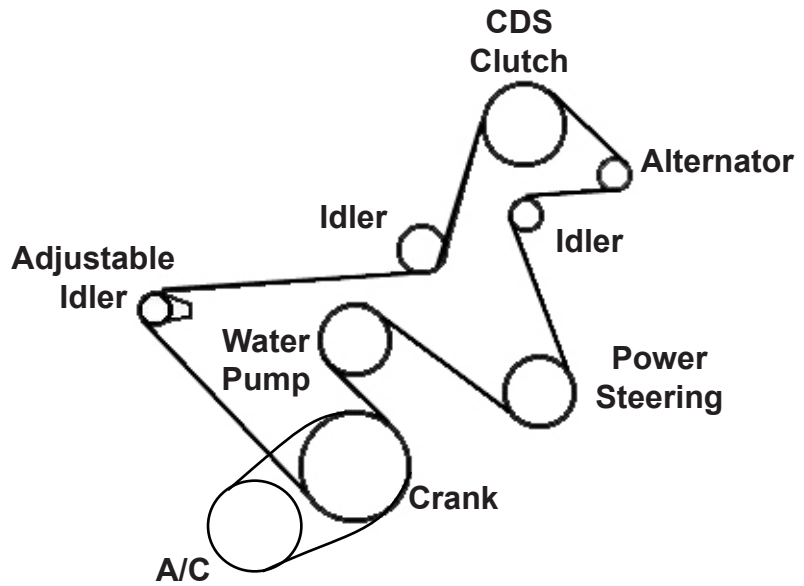

Figure 18. Routing Diagram for New Drive Belt
15. Install the new drive belt using the routing diagram in Figure 18.